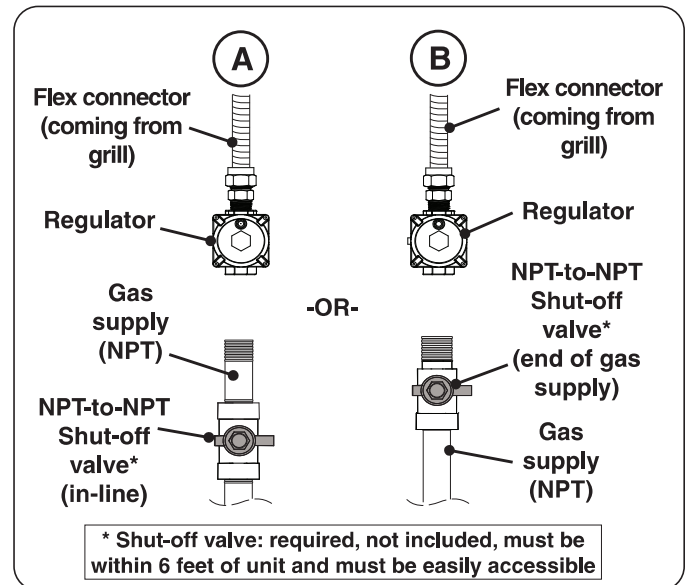

Fig. 20-1 Household propane & natural gas diagram
- Connect the regulator (on end of flex connector) to the gas supply (NPT) OR shut-off valve (NPT) using a pipe joint compound resistant to all gasses (see Fig. 20-1, A or B). Tighten securely.